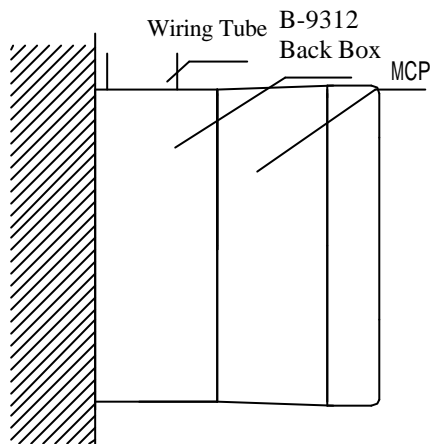
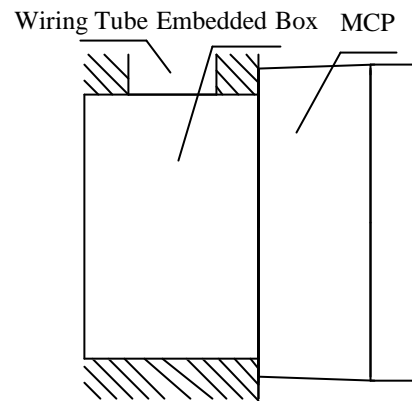
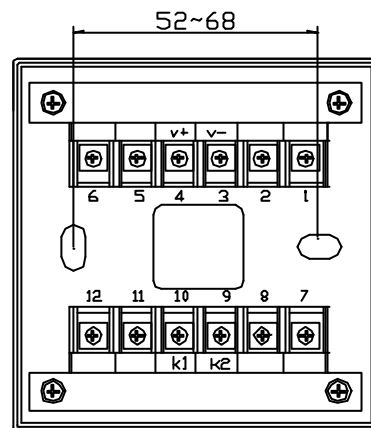

Fig.2 Wiring tube surface-mounted
Fig.3 Wiring tube embedded
Fig. 5 Terminals
- a. Surface mounting can adopt open mode, installing the base on B-9312 back box as shown in Fig.2, or by embedded mode, the hole distance of the embedded box is 52~68mm (refer to Fig.5). Installation is shown in Fig.3.
4. Terminals of the MCP are shown in Fig.5.